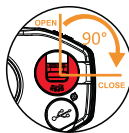

Figure 4
3. After the battery is installed, press down on the battery cover and rotate it 90° clockwise, as shown in Figure 4. Then press down the rotating handle, as shown in Figure 5.